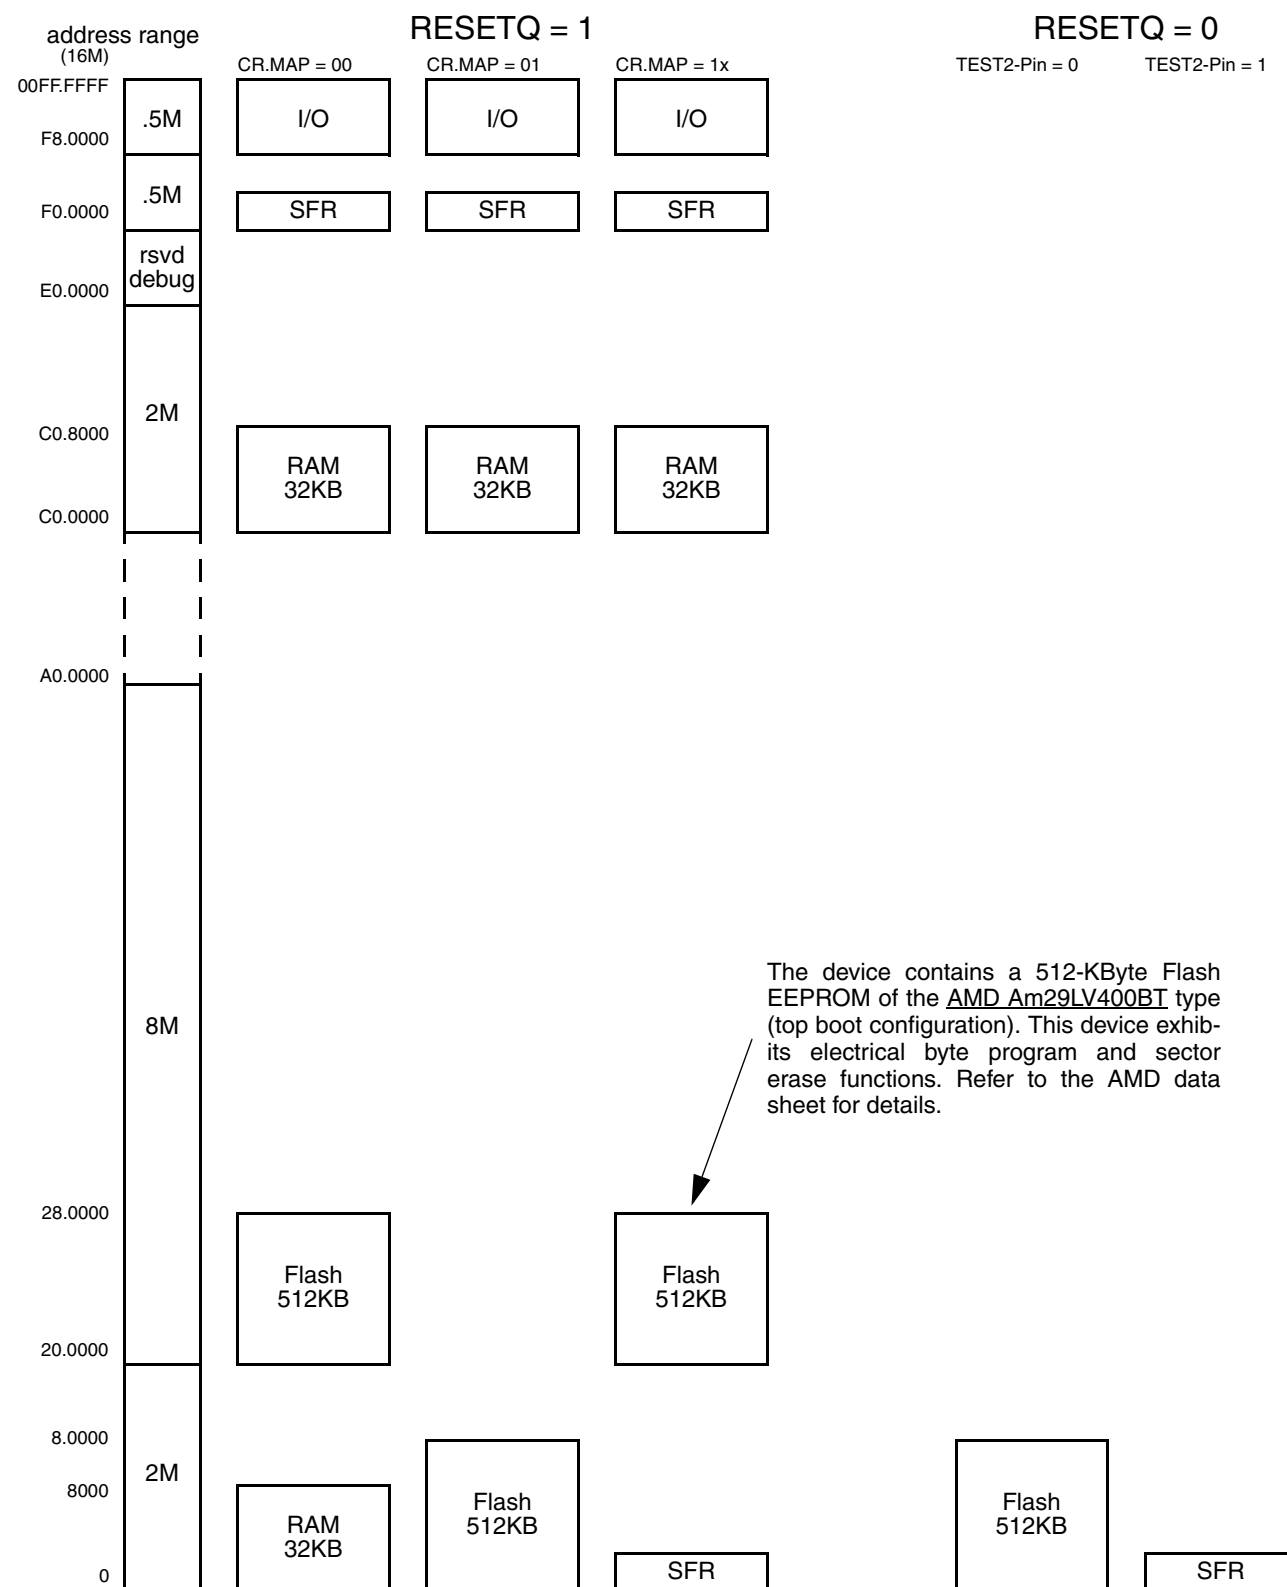

Fig. 5-1: Address map. Most common settings
5. Memory and Special Function ROM System	Figure 5-1: Flash upper hex address corrected Precaution added